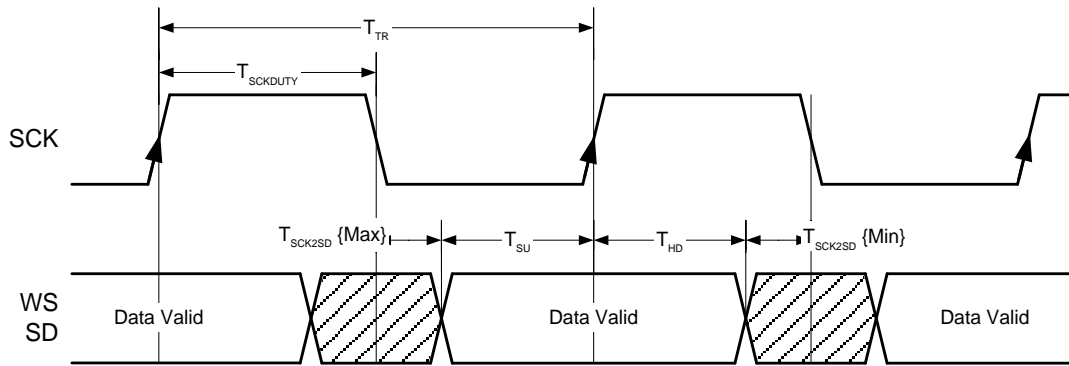

Figure 4.4. I²S Output Timing
1. Meets timings in Philips I²S Specification, see Figure 4.4 on page 37.